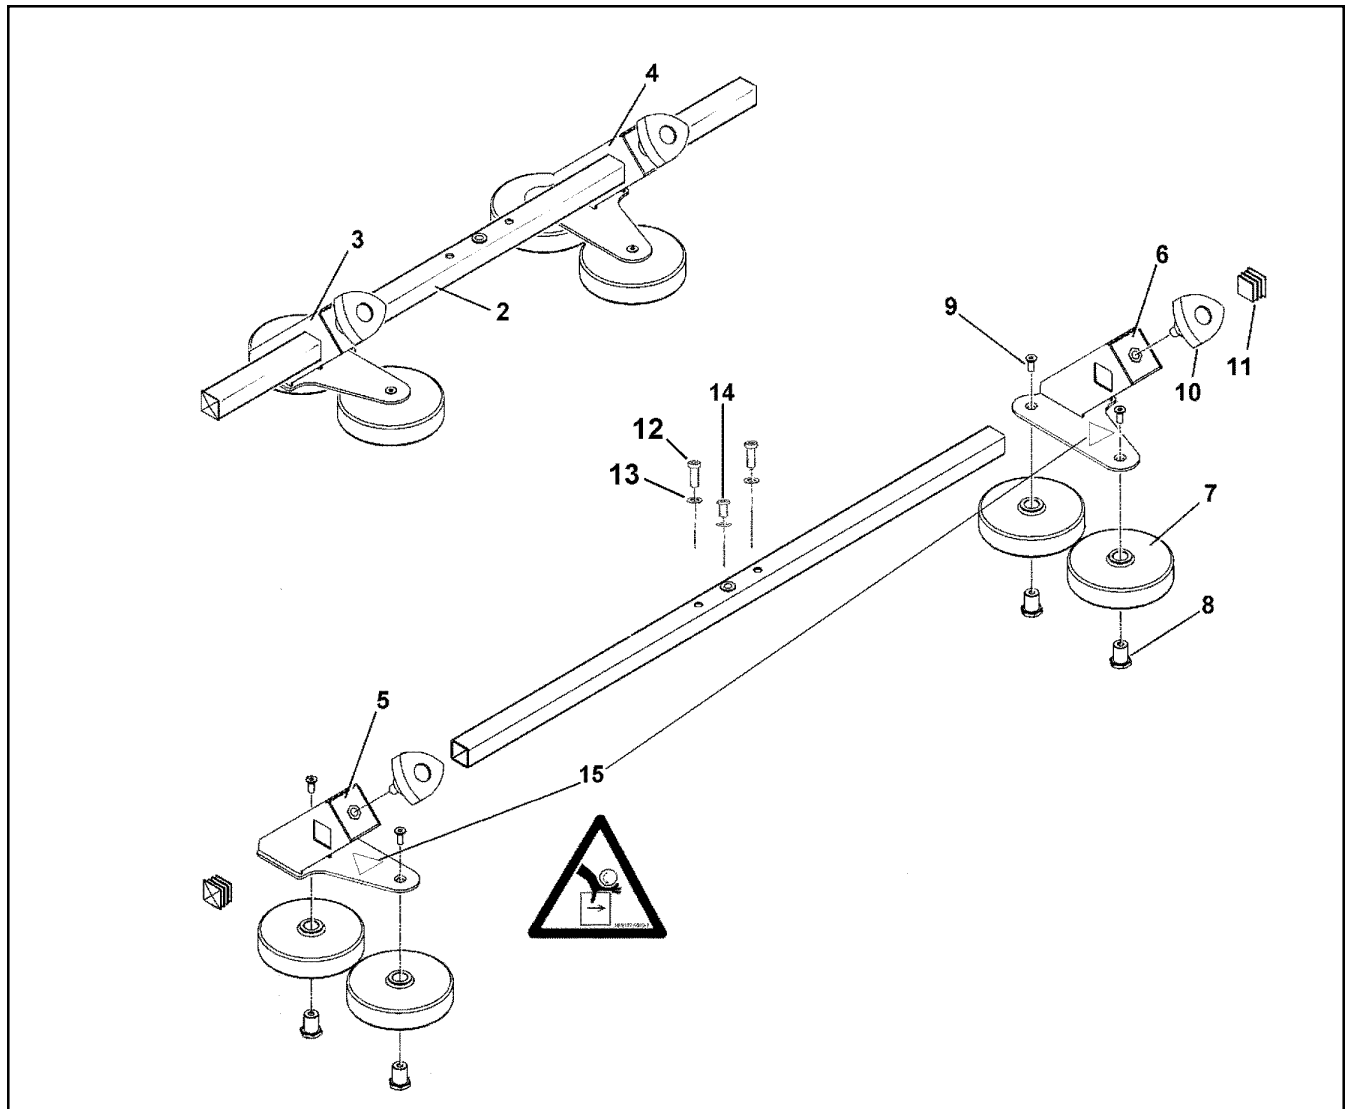

Figure 6—Parts Illustration
1. Refer to Figure 6 to find the required part and reference number.